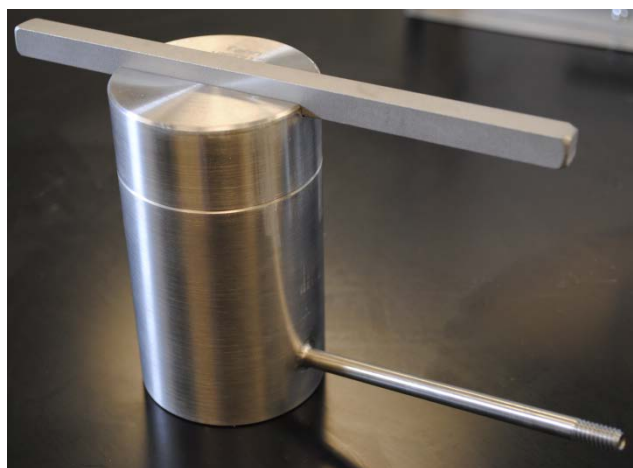

Figure 4-2 Retort Wrench to Separate Chamber Assembly
3. Using the square bar retort wrench, separate the sample chamber from the upper chamber as shown in Figure 4-2: